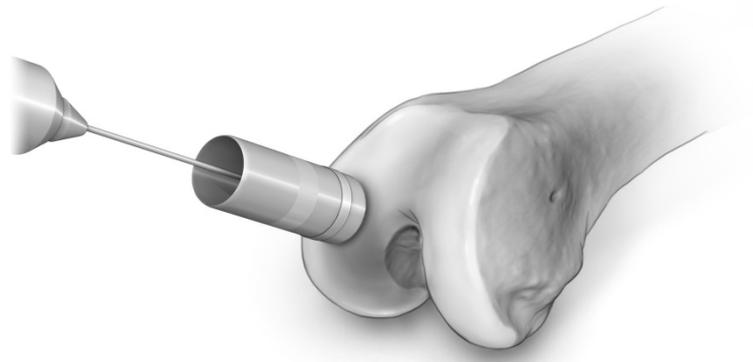

Fig. 1b
**Step 2:** The initial use of the cutter/guide is to orient a Steinmann pin perpendicular to the condylar surface. Rest, but do not push, the cutter/guide against the condylar surface. The cutter/guide should contact the joint surface throughout its circumference. Prior to removing the cutter/guide, trace the entire circumference with a marker. Make hash marks on the circumference at the 12, 3, 6, and 9 o'clock positions (double mark at 12 o'clock). Holding the guide in place, drill the Steinmann pin approximately 25mm into the condyle (Fig. 1b).